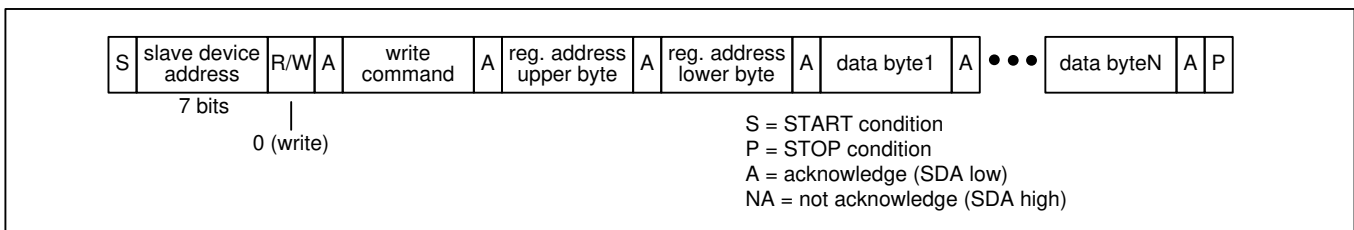

Figure 8 – I²C Register Write Transaction Functional Timing
Register Write Transactions. The device registers are accessible when $EESEL=0$. The bus master does an I²C write to the device. The first three bytes of this transaction are the SPI Write command (see Table 3), the upper byte of the register address, and the lower byte of the register address. Subsequent bytes are data bytes to be written. After each data byte is received, the device writes the byte to the write address and then increments the write address. The bus master terminates the write with a STOP condition (P). See Figure 8.